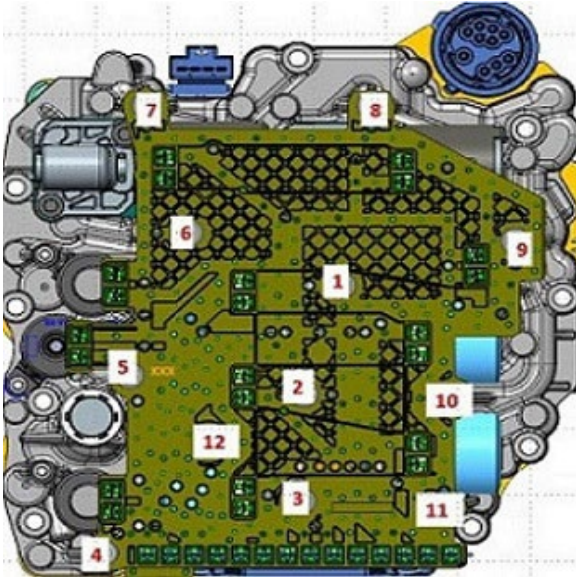

Figure 20. Contact Plate Bolts 0GC Transmission.
• **For 0GC Transmission (figure 20):**